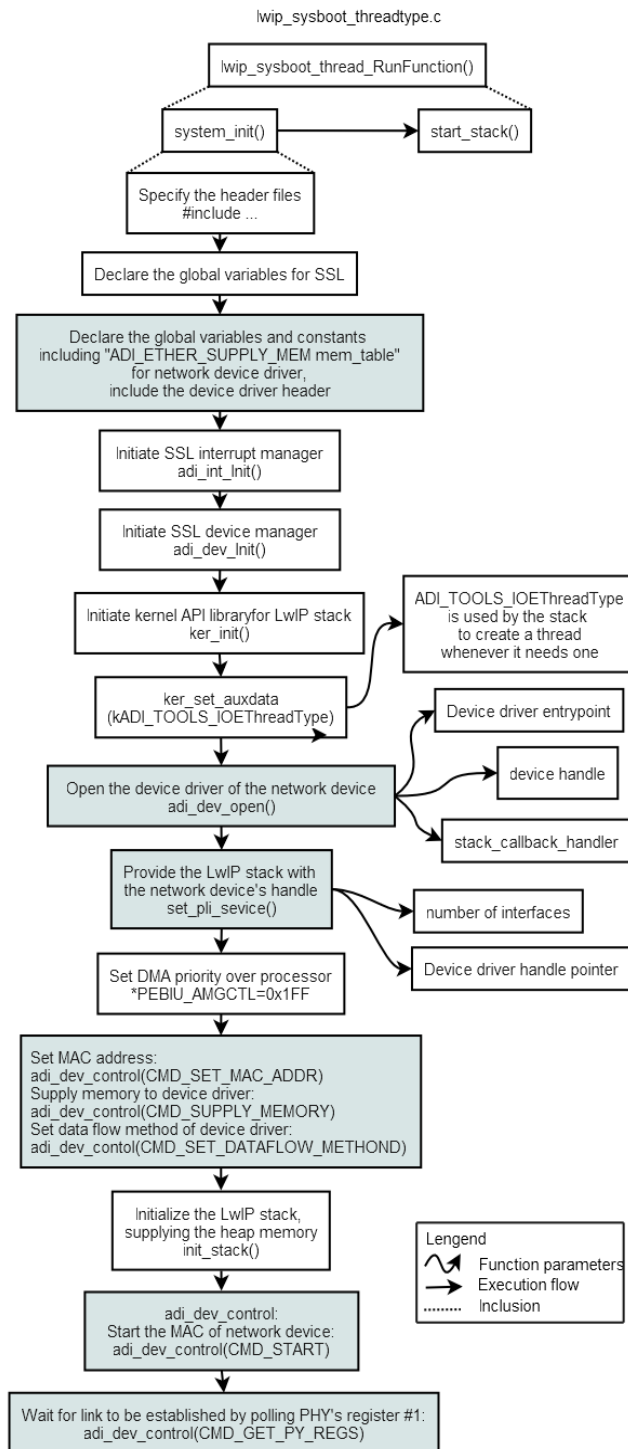

Figure 2. Steps to Bring Up One Network Interface
To bring up a network interface and its related TCP/IP stack, the following sequence of actions must be taken (as described in *LwIP User Guide*^[5]). Figure 2 shows how these steps are implemented inside the run function, `lwIP_sysboot_threadtype_RunFunction()`, except step 2, which is done with the kernel property setting of the project.
VisualDSP++ 4.5 does not provide a project wizard for two network interfaces. Most of the work has to be done manually, but the code generated for the single network interface can be reused. Additionally, the overall procedure is the same as in the single interface case (as shown in Figure 2).
In Figure 2, the shaded blocks are the initialization of the individual physical network devices. These steps must be executed for each network device. A practical way to do it is:
2. Locate all device initialization codes in `lwIP_sysboot_threadtype_RunFunction` of `lwIP_sysboot_threadtype.c` in the two projects (the shaded blocks of Figure 2).